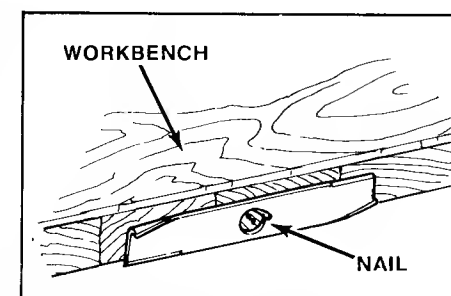

Figure 21. Balancing Blade
6. Check and balance blade. Use a balancing machine or the fixture shown in figure 21. Center the blade on a nail lubricated with a drop of oil. A balanced blade will remain level. File material off heavier end of blade until it is balanced.